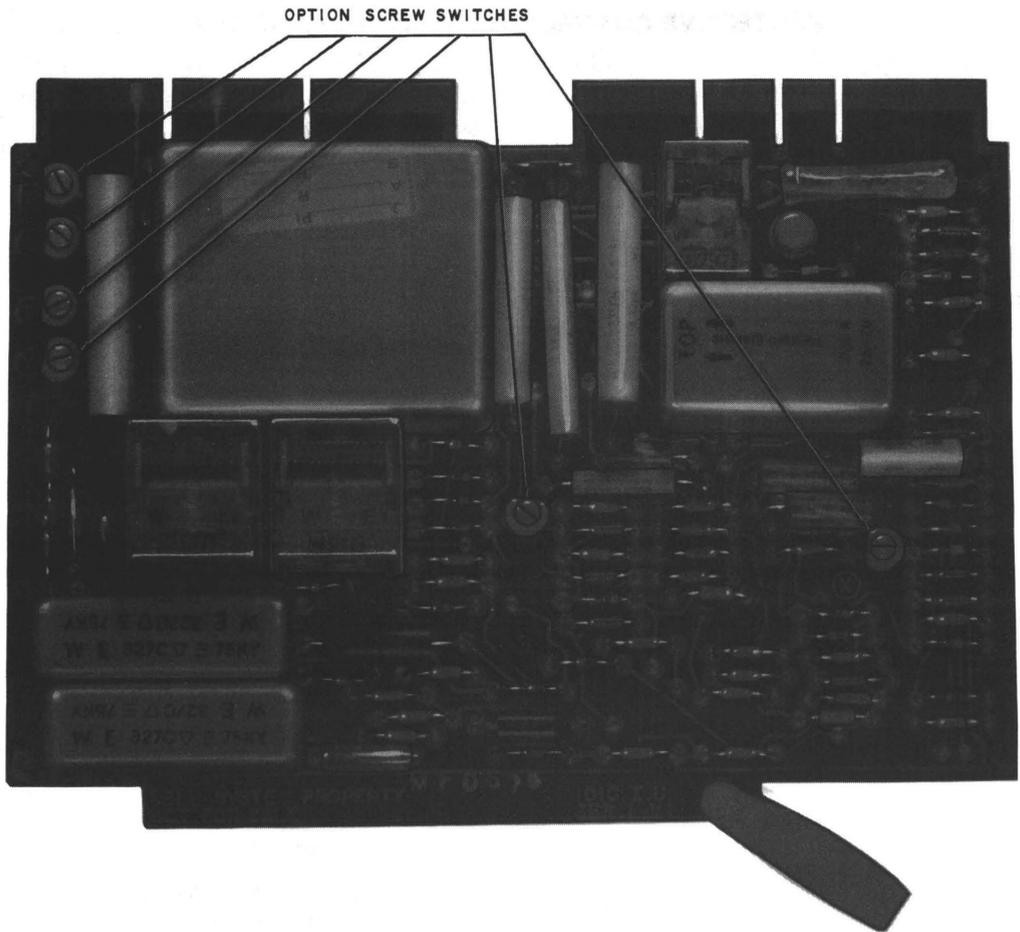
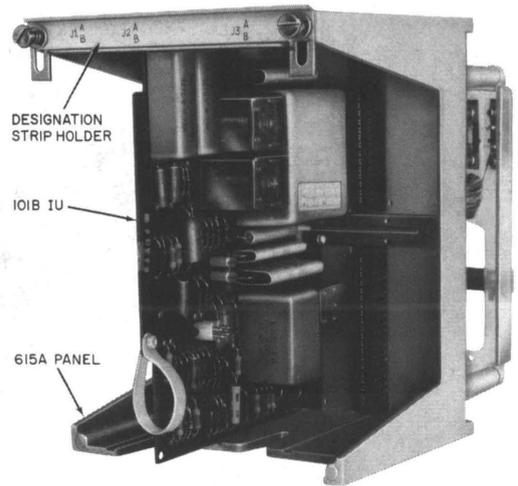

Fig. 1—101C IU
Fig. 2—101B (MD) IU Mounted in 615A Panel
1.04 ♦The 101C IU (Fig. 1) is an improved version of the 101B (MD) (Fig. 2) and is the preferred unit for new installations and replacements. Existing installations with 101A (MD) and 101B (MD) IUs may be encountered in the field; do not replace these units unless they are defective. Furthermore,
- Unit, Interconnecting, 101C (one per toll operator access trunk) (Fig. 1).
- Panel, 615A (includes fuse panel only, no power unit; mounts up to three 101-type IUs) (Fig. 2)
- Options connected by straps on 101A and 101B; by screw switches on 101C (Fig. 1)